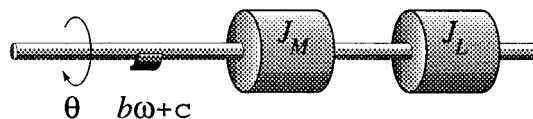

Figure 4.5. Motor Mechanical Diagram: open electrical circuit.
- d. The mechanical time constant, and hence the total moment of inertia, J , can be determined by opening the motor circuit ($I_a = 0$), when the motor is rotating, and observing the time-constant of the resulting decay of the motor speed. The situation is shown in Fig. 4.5.